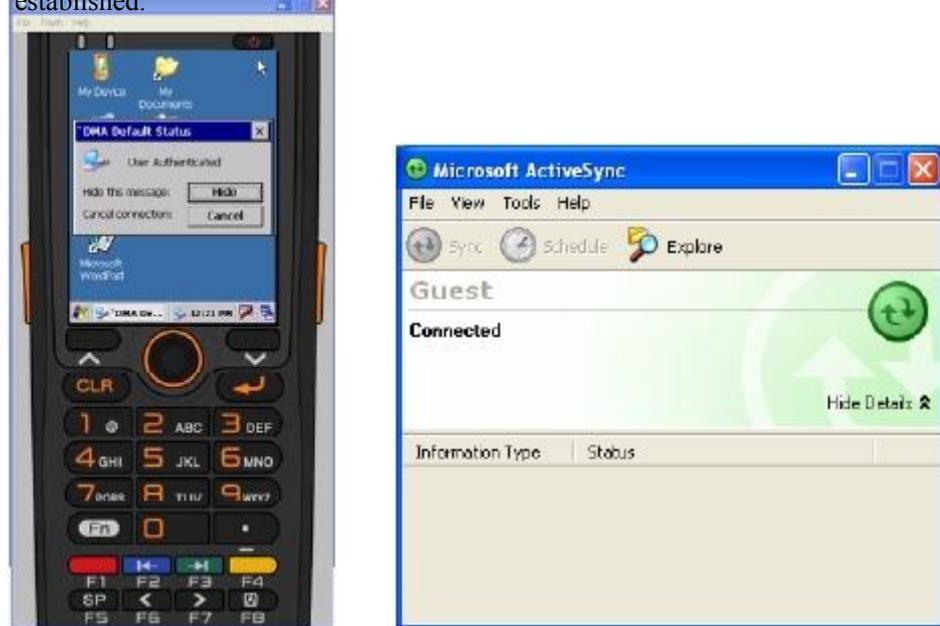

Figure 9.22
4. Make sure ActiveSync has started up and the  icon in the status bar appears. See the emulated screen of DT-X7 in Figure 9.22. The icon indicates that the connection via ActiveSync has been established.